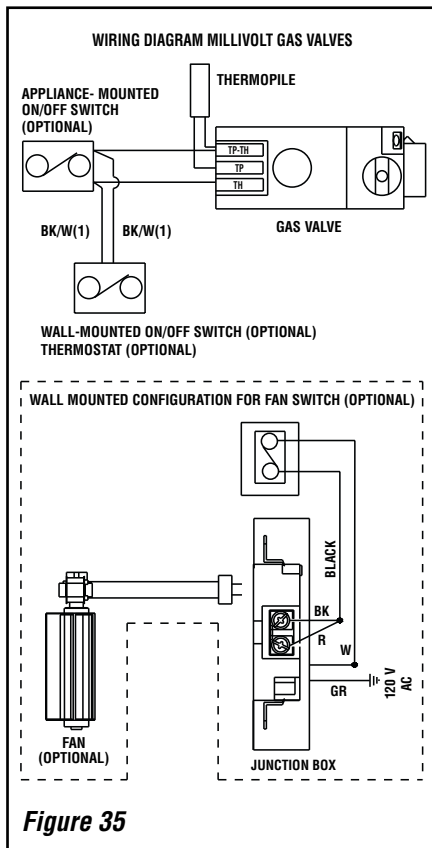

Figure 35
A. Millivolt Wiring (See Figure 35) –